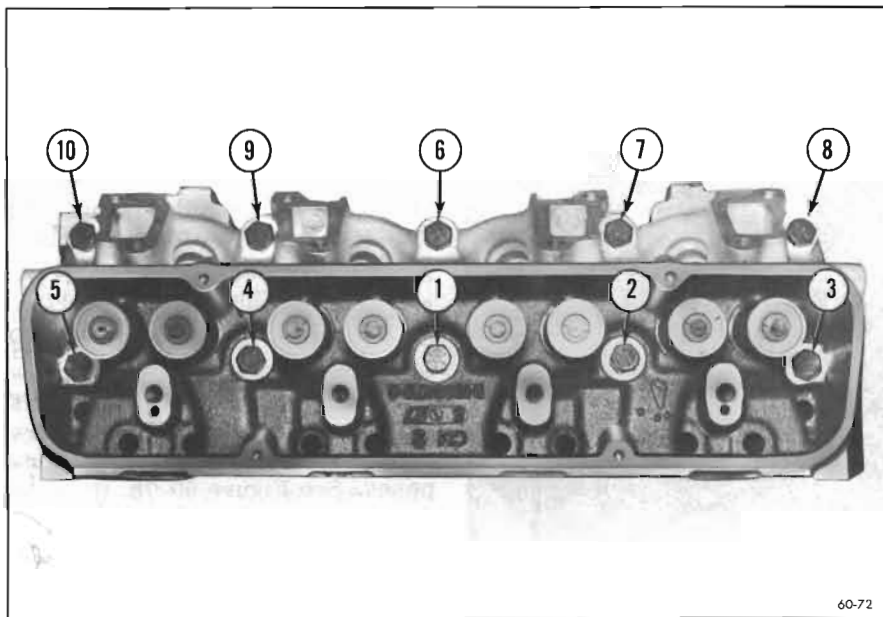

Figure 60-72—Cylinder Head Bolt Tightening Sequence
6. Tighten the head bolts a little at a time about three times around in the sequence shown in Figure 60-72. Give bolts a final torque in the same sequence. Torque to 65-80 lb. ft.